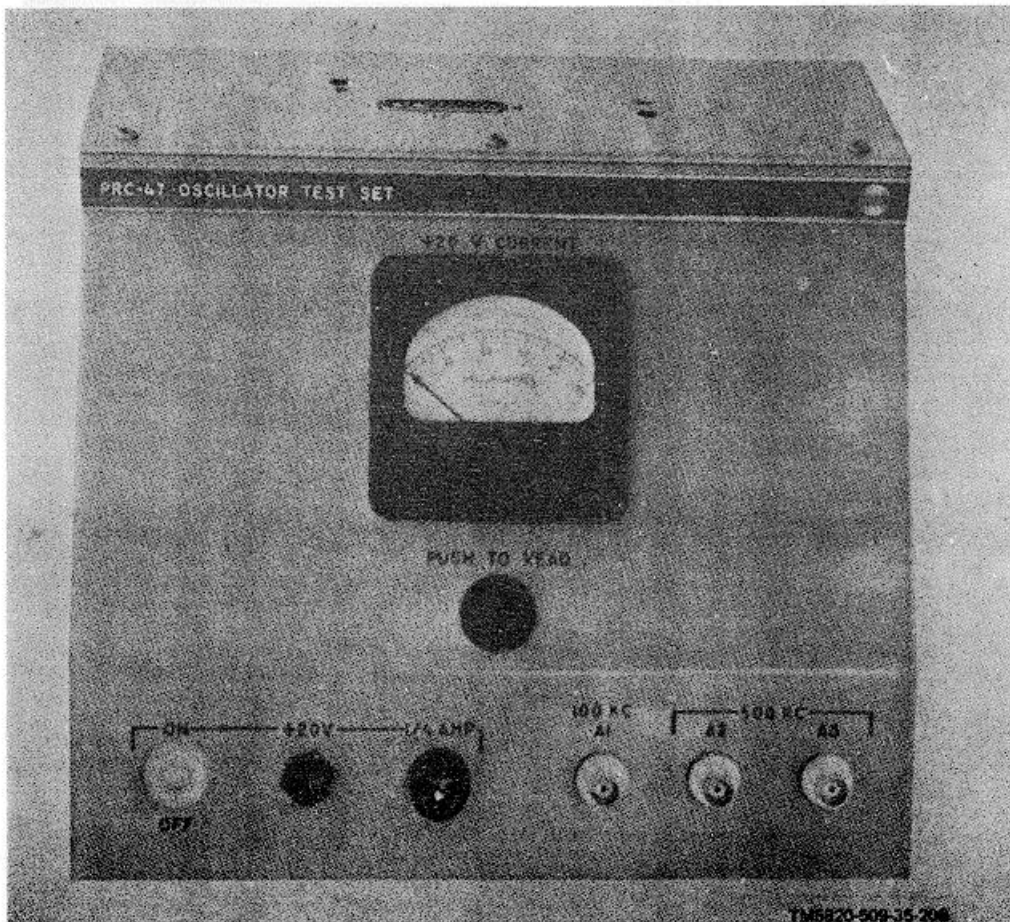
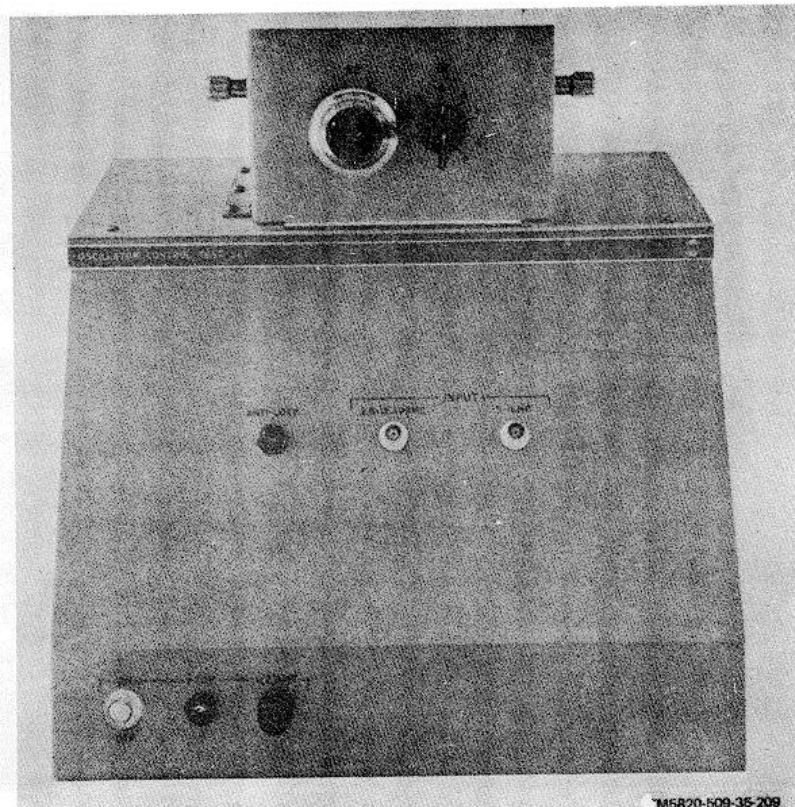

Figure 6-9. Test Fixture for O-1032/PRC-47, Suggested Layout.
Figure 6-10. Test Fixture for C-4311/PRC-47, Suggested Layout.
| Test fixture for PP-3518/PRC-47 | | Fig. 6-9 |
| Test fixture for 0-1032/PRC-47 | | Fig. 6-10 |
(3) Performance tests, 110-volts, 400-Hz primary power source.
e. *Radio Frequency Oscillator O-1032/PRC-47*. The following tests must be performed using the test fixture for O-1032/PRC-47 (fig. 6-9). A schematic diagram, parts layout photographs, and parts lists for this test fixture are included in section III.
- (1) Initial settings and adjustments.
- (2) Locked oscillator, divider, and output amplifier performance.
- (3) Locked oscillator Q4 and 500-kHz amplifier adjustments.
- (4) Locked oscillator Q8 and 100-kHz amplifier adjustments.
- (5) Final frequency calibration.
f. *Oscillator Control C-4311/PRC-47*. The following tests must be performed using the test fixture for the C-4311/PRC-47 (fig. 6-10). A schematic diagram, parts layout photographs, and parts lists for this test fixture are included in section III.
- (1) Pulse generator output.
- (2) 1.8- to 0.9-MHz ringer circuit alignment.
- (3) Crystal oscillator alignment.
- (4) 601- to 600-kHz filter test.
- (5) 550- to 750-kHz filter test.
- (6) Frequency discriminator test.
- (7) Error voltage balance adjustment.
- (8) Anti-lock test.
- (9) SMO mixers test.